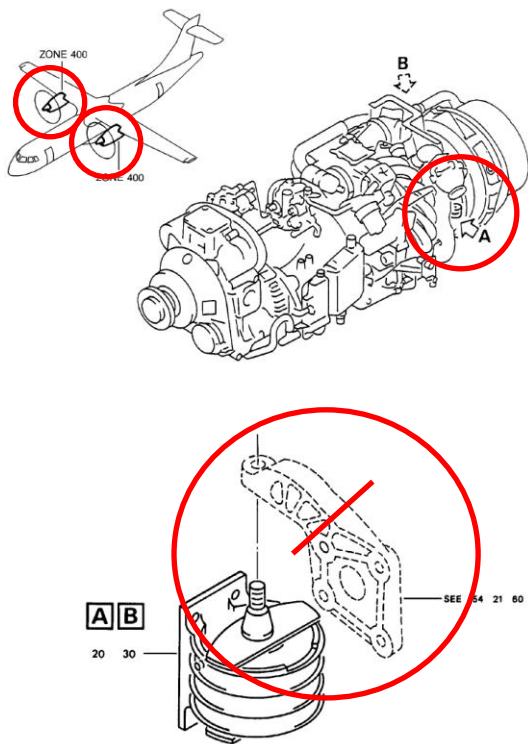
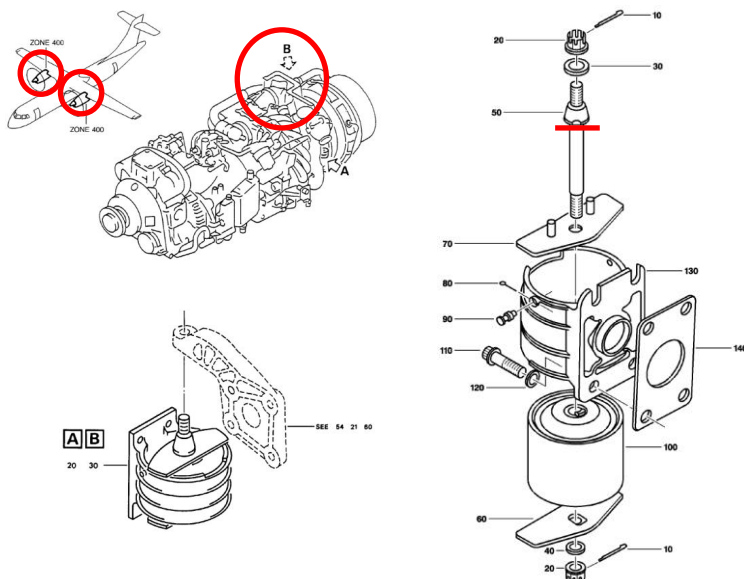

Figure 1: Shock mount pick-up fitting potential failure
Figure 2: Shock mount cone bolt potential failure
<p>Required Action(s) and Compliance Time(s):</p>	<p>Required as indicated, unless already accomplished</p> <p>(1) Within 6 months after the effective date of this AD, accomplish the following actions concurrently:</p> <p>(1.1) Identify the s/n of the P/N S54210394200 (Barry Control P/N 94423-05) LH and RH shock mount pick-up fittings installed on both engine nacelles. Appendix 2 of this AD identifies the fitting P/N and s/n locations.</p> <p>A review of maintenance records is acceptable to determine the s/n of the LH and RH shock mount pick-up fitting, provided the s/n can be conclusively identified from this review.</p> <p>(1.2) Visually inspect both LH and RH aft side isolator pick-up fittings on both engines in accordance with the instructions of the applicable Aircraft Maintenance Manual (AMM) Job Instruction Card (JIC) 541161-DVI-10000 paragraph 004.1. Refer to Appendix 1 Figure 1 of this AD for potential crack location.</p> <p>(1.3) Visually inspect both LH and RH aft shock mount cone bolts on both engines in accordance with the instructions of the applicable AMM JIC 712000-DVI-10000 paragraph 006.3.A. Refer to Appendix 1 Figure 2 of this AD for potential crack location.</p> <p>(2) If, during any inspection as required by paragraphs (1.2) or (1.3) of this AD, cracks are detected, before next flight, replace defective component in accordance with approved ATR instructions.</p> <p>(3) If the s/n of the L/H shock mount pick-up fitting, identified as required by paragraph (1.1) of this AD, is lower than 2451 or unreadable, and no crack has been found, within 6 months after the inspection as required by paragraph (1.2) of this AD, replace LH shock mount pick-up fitting P/N S54210394200 with a serviceable LH shock mount pick-up fitting having a s/n equal to or higher than 2451, in accordance with ATR approved instructions.</p> <p>(4) Within 30 days after the inspections as required by paragraph 1 of this AD, report all findings (including none) to ATR, by using the reporting form provided in Appendix 3 of this AD.</p> <p>(5) From the effective date of this AD, do not install on any aeroplane a LH shock mount pick-up fitting P/N S54210394200, unless it has been determined to have a s/n equal to or higher than 2451.</p>